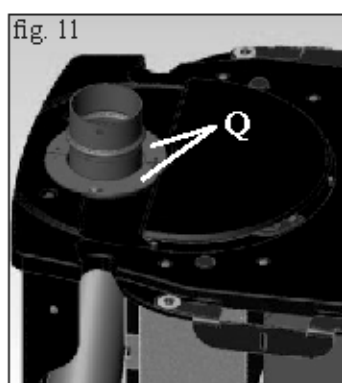

fig. 11
- Position the two plating closers (Q - fig. 11) around the flue pipe outlet and fix them using the screws.